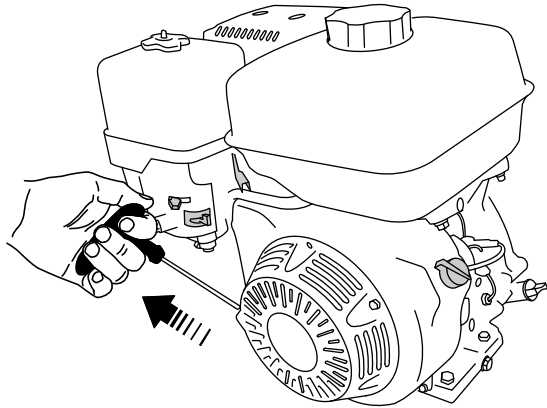

Figure 39
- Pull the recoil-start handle lightly until you feel resistance, then pull the handle briskly. Return the starter handle gently (Figure 39).